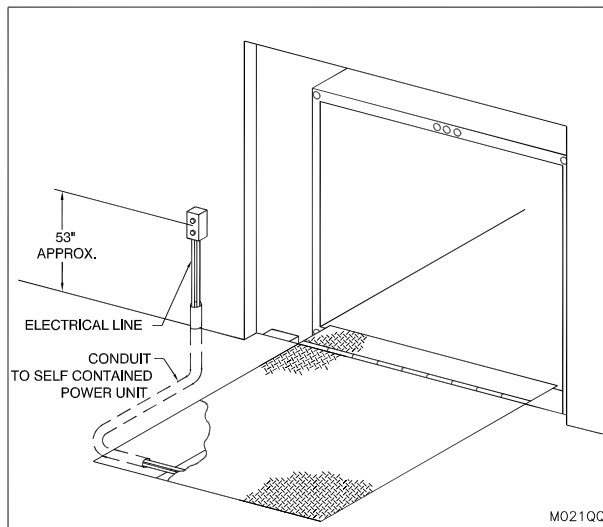

Figure 8: Push Button Location
7. ___ Mount the push button in an appropriate location. (Figure 8: Push Button Location on page 8)